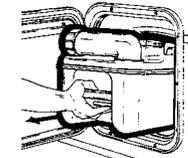

Fig. 12
12. Open access door and remove the holding tank. The holding tank can only be removed when the valve blade is closed (fig. 12).